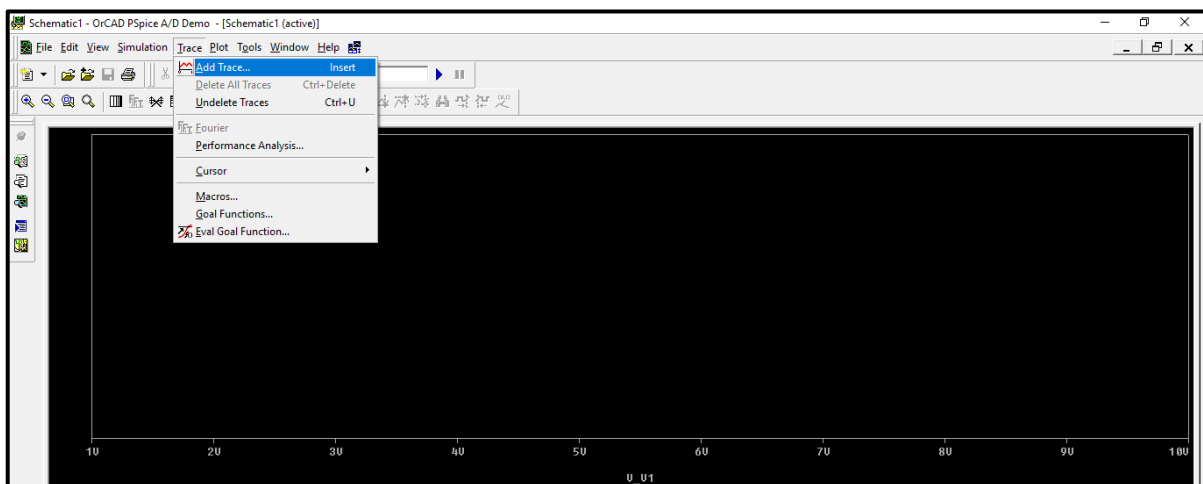

Figure.22
- You also can add curves, (traces) from simulation output window by clicking on traces and select add trace as shown in figure 22. You show current trace by clicking upon Current Maker (note that current marker must be placed on the terminals of a part to display current).